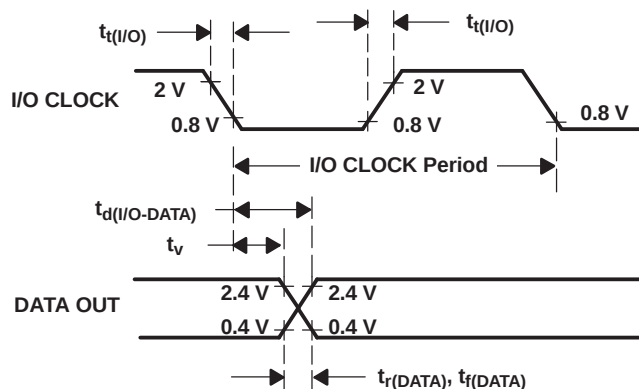

Figure 6. I/O CLOCK and DATA OUT Voltage Waveforms
- (3) Zero-scale error is the difference between 0000000000 and the converted output for zero input voltage; full-scale error is the difference between 1111111111 and the converted output for full-scale input voltage.
- (4) Analog input voltages greater than that applied to REF+ convert as all ones (1111111111), while input voltages less than that applied to REF- convert as all zeros (0000000000). The device is functional with reference voltages down to 1 V ($V_{ref+}-V_{ref-}$); however, the electrical specifications are no longer applicable.
- (5) Total unadjusted error comprises linearity, zero-scale, and full-scale errors.
- (6) Both the input address and the output codes are expressed in positive logic.
- (7) I/O CLOCK period = 1/(I/O CLOCK frequency) (see Figure 6)
- (8) Any transitions of $\overline{CS}$ are recognized as valid only if the level is maintained for a setup time plus two falling edges of the internal clock (1.425 μs) after the transition.